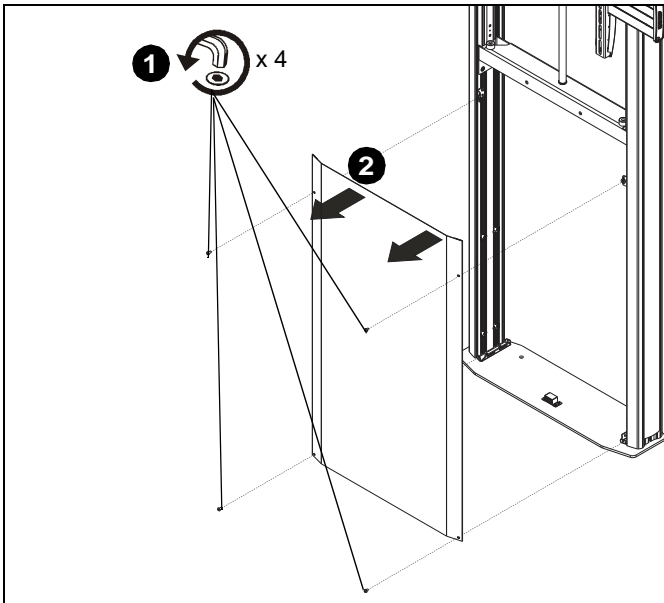

Figure 16
1. Remove lower cover to expose floor holes. Refer to Cover Removal Section for details. (See Figure 16)
1. Remove four button head cap screws holding front cover to mount. (See Figure 16)
2. Pull front cover away from mount. (See Figure 16)